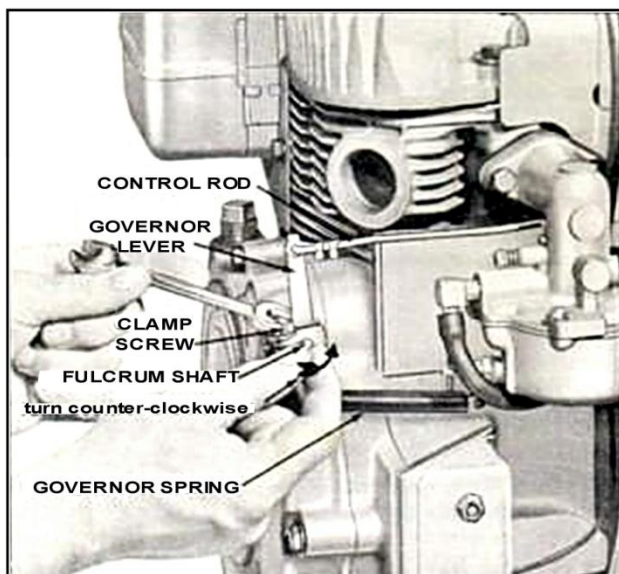
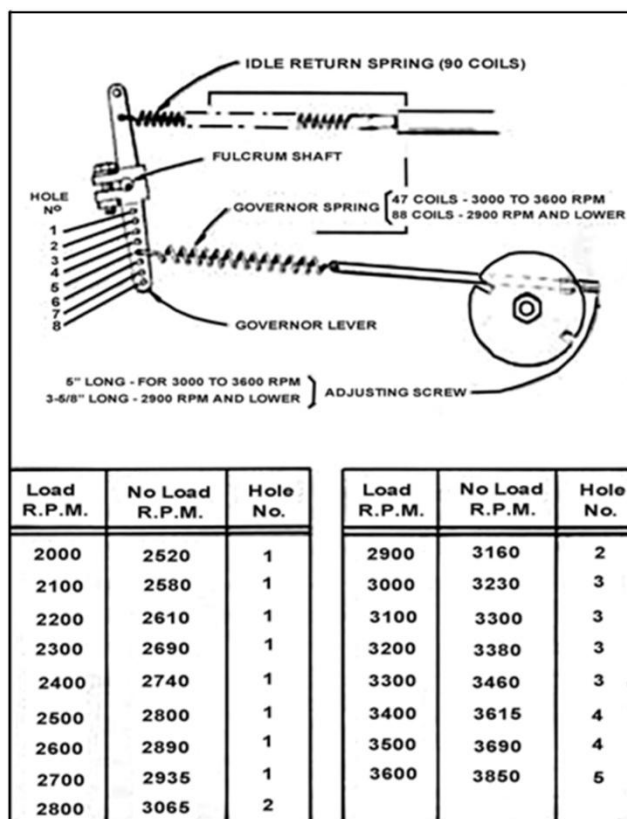

Fig. 44
Fig. 45
5. Tighten **clamp screw** as illustrated in Fig. 44, and mount **idle return spring** from breather tube to governor lever as shown in Fig. 45.
ENGINE SPEED (Fig. 45)
refer to *Governor Lever Chart, Fig. 45*, for all TRA-10D engines and if this change is pertinent to your TR-10D engine.
The governor lever chart, Fig. 45, shows the **full load** and **no load** speeds and the corresponding governor spring hole. After hooking spring into the lever hole relative to the desired **load speed**, run the engine without load and regulate the spring tension by means of the **adjusting screw** until the required **no load** speed is obtained. The governor spring will have to be disconnected from adjusting screw each time screw is turned in or out.
A tachometer or revolution counter should be used against the crankshaft to check speed while adjusting the governor spring tension. The engine speed without load will be higher than the speed with load. For instance, if the engine speed is to operate at 3000 R.P.M. under full load, the speed with no load will be 3230 R.P.M. and this should be kept in mind when adjusting the governor. Refer to the governor lever chart, Fig. 45, for the variation between load speed and no load (high idle) speed.